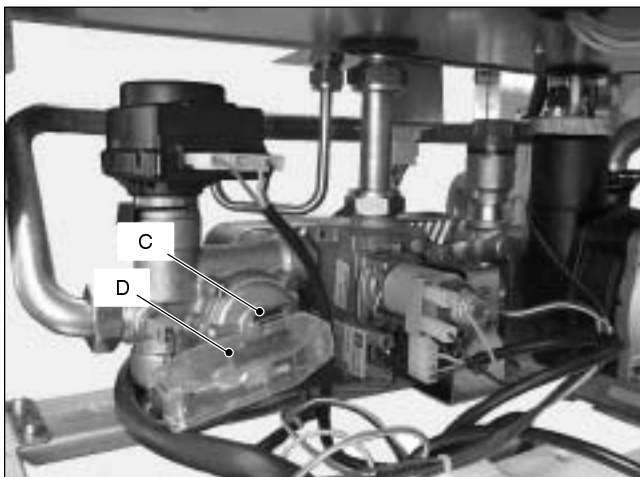

Fig. 50
- 2 Remove the fork C (Fig. 50).
- 2 Remove the fork C that holds the micro-switch housing D (Fig. 50).